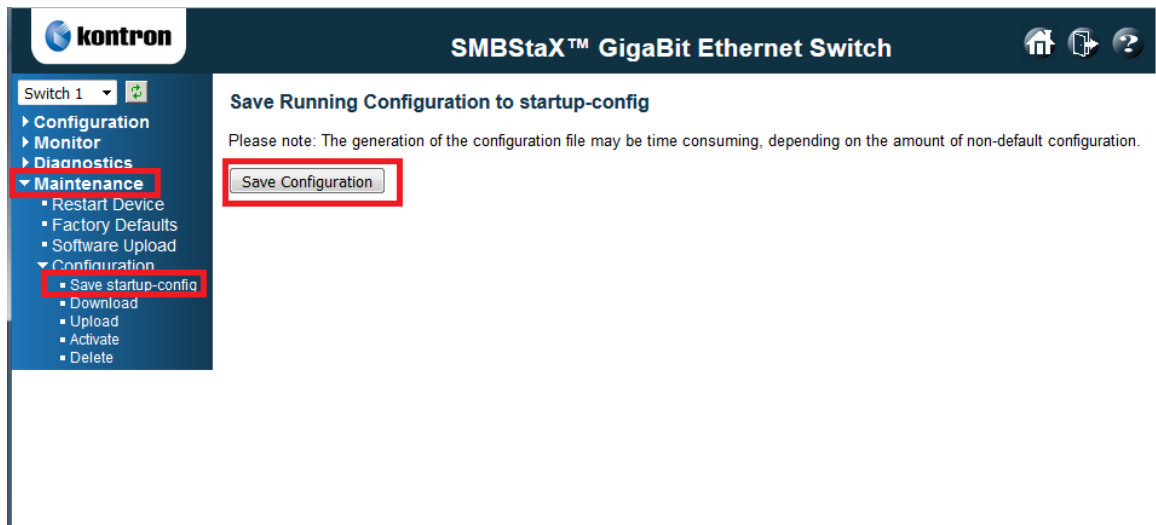

Figure 7: Network Configuration at the end of the installation on Server 2.
3. Save the startup configuration. In order to do this, connect to the UI of T1 switch, and select Switch 1 → Maintenance → Configuration → Save startup-config (See Figure 7).